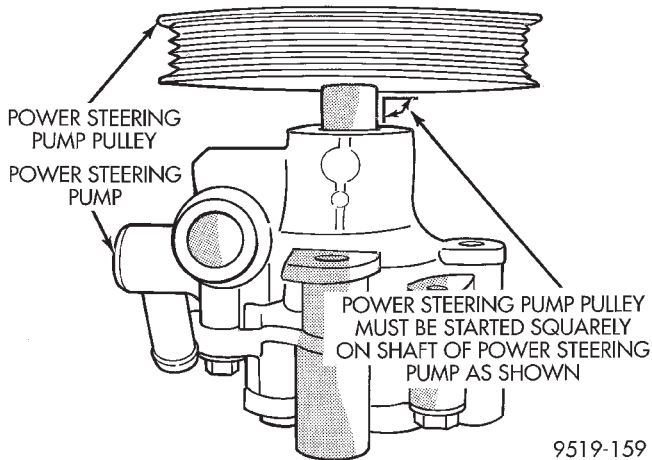

Fig. 58 Pulley Positioned On Shaft Of Power Steering Pump
(2) Place power steering pump pulley squarely on end of power steering pump shaft (Fig. 58).